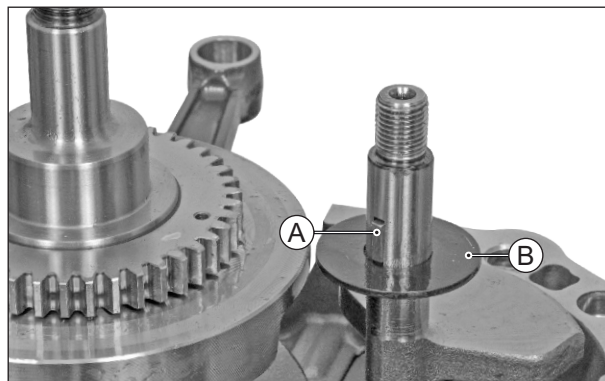

Fig. 3.146
- Remove the wood ruff key (A) from the balancer shaft assembly. (Fig. 3.146)
- Take out the retainer spring (B) from the balancer shaft assembly. (Fig. 3.146)